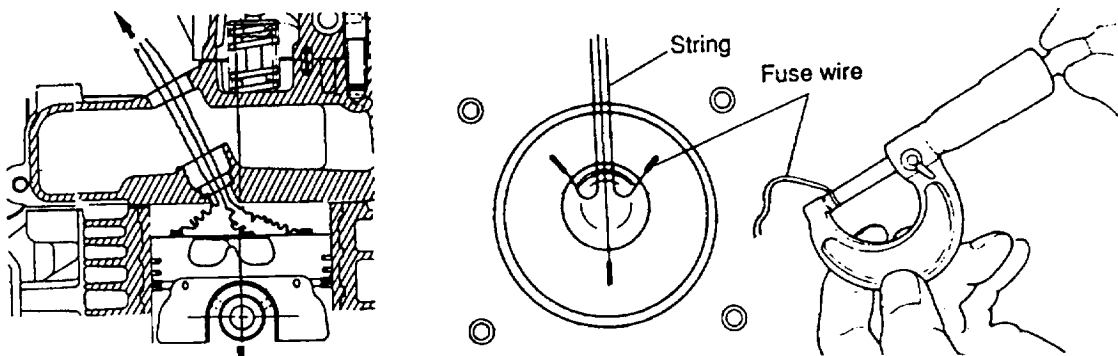

Figure 6-41 Measuring the top clearance
- 4) Remove the cylinder head and take out collapsed fuses. Measure the thickness of three crushed fuses. Instead of removing the cylinder head, thread a string tied to the fuse through the nozzle hole, pull it out to bring the fuse on the cylinder head as shown in Figure 6-41, and apply step (3) described above.
- 5) The top clearance is the average of the three measured thicknesses. Obtain the mean value of the three thicknesses (see Figure 6-41).